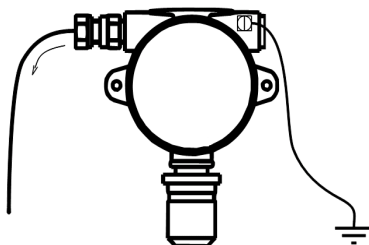

Figure 11: Grounding connection and correct cable laying
- arrange the cable correctly so that it is not affected by mechanical stress, that water does not flow down it to the detector - see Figure 11, and that it is of the appropriate length (Section 1.3),
Ground the detector by connecting the cable to the ground terminal (see Figure 11). Use a cable with a cross-section of at least 0.5 mm².